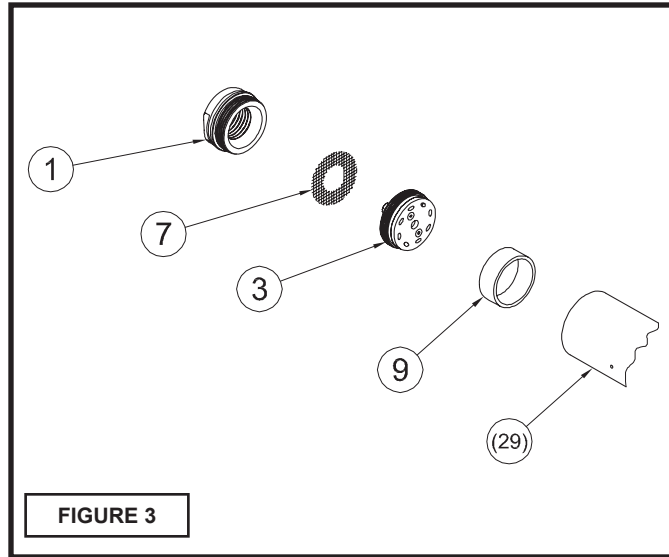

FIGURE 3
See Figure 3
**IMPORTANT! DO NOT** try to tighten end cap (53) while holding the main housing (29). This may cause damage to the gear head. Tighten and loosen (53) per directional arrow on Figure 3.